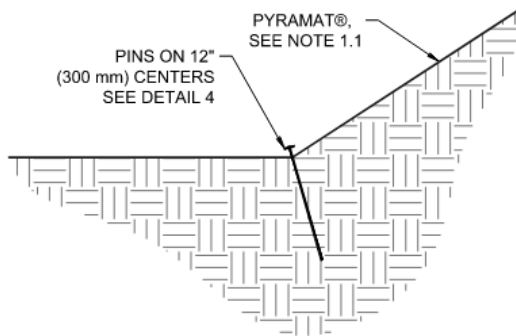

Figure 11: Break in slope interface
- At the break in slope interface towards the TOS, it is suggested that pins be installed on 12 in (300 mm) centers (Figure 11).